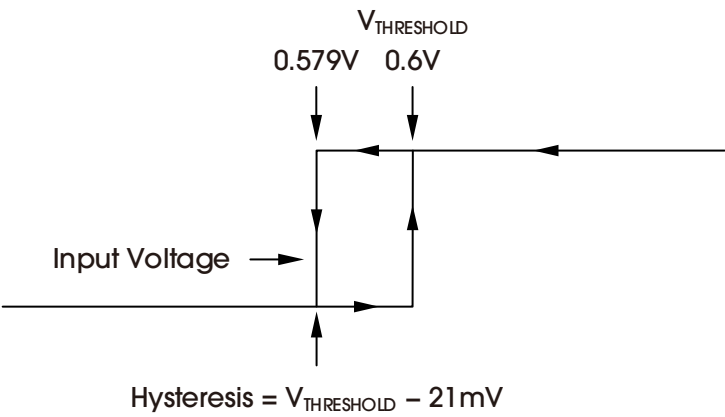

Figure 2. Typical Comparator Hysteresis
- Note 1: Hysteresis refers to the threshold (the threshold specification applies to a rising edge of a noninverting input) of a falling edge on the noninverting input of the comparator; refer to Figure 2.